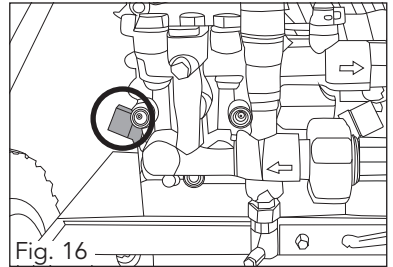

Fig. 16
2. Remove the oil filler cap and wipe the dipstick with a clean rag. Check the oil level by inserting the dipstick in the filler hole without screwing it in and then removing it again (fig. 16).